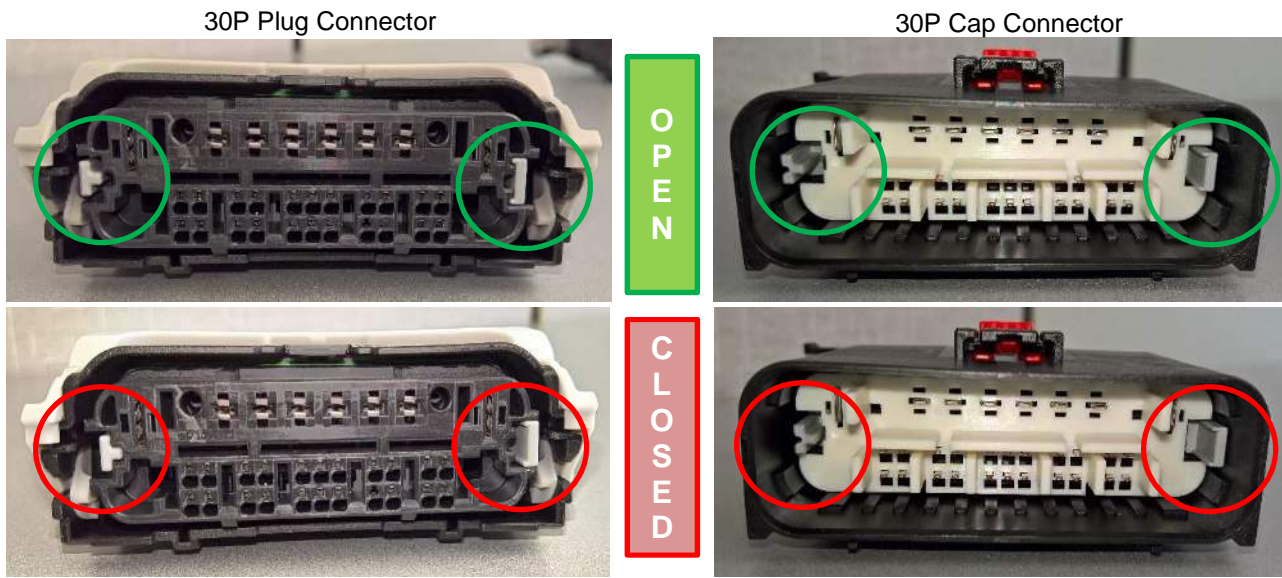

Figure 21
1. Terminals can be removed only when the ISL is in the open position. Insert a small screwdriver or other suitable device as shown in Figure 20, to disengage ISLs by sliding to the right. Tool should be inserted as far down the tower of the ISL as possible. This can be verified by looking at the exposed towers on the ends of the ISL and comparing them to the connector housings, using Figure 21 as a reference.
If the terminal is not removing easily, verify that the ISL is in the open position as shown in Figure 21, and terminal is pushed forward in the cavity as described in Step 2.